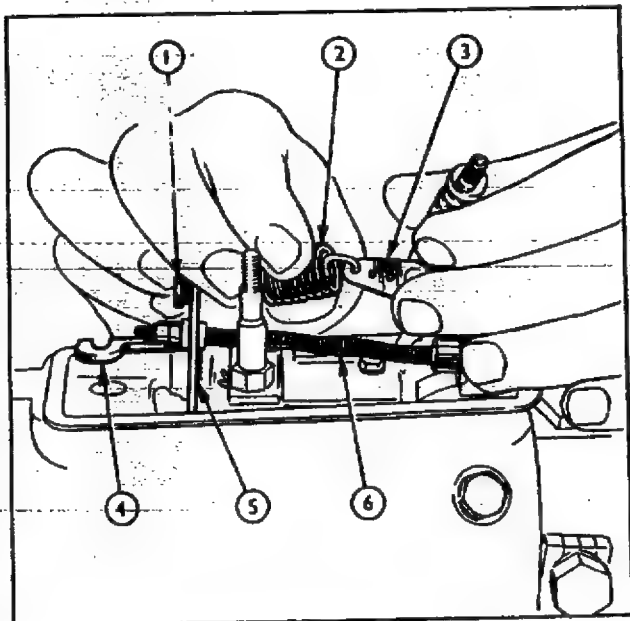

Fig. 77 1 Idling Spring and Guide
6. Disconnect the governor spring from the swivel link on the throttle shaft lever (see Fig. 77).